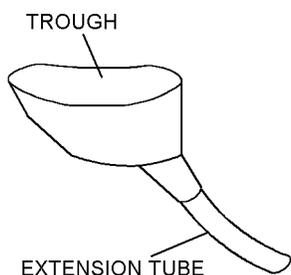

Figure 9-46. Freshette
8. Freshette (figure 9-46). This reusable plastic funnel is intended for female use only. The Freshette is contoured to the female anatomy to provide a snug fit when urinating. A 5/16 inch hole is connected to the end of the funnel to transfer liquid into a containment device. In its closed configuration, the Freshette is approximately 5 3/4 x 2 1/2 x 1 1/4 inches. Use of the Freshette is explained on the packaging.